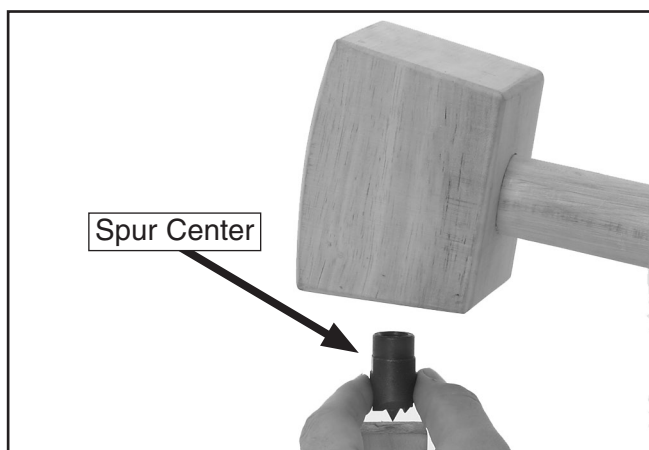

Figure 12. Driving in the spur center.
6. Drive the spur center into the center of the workpiece with a wood mallet as shown in **Figure 12**.